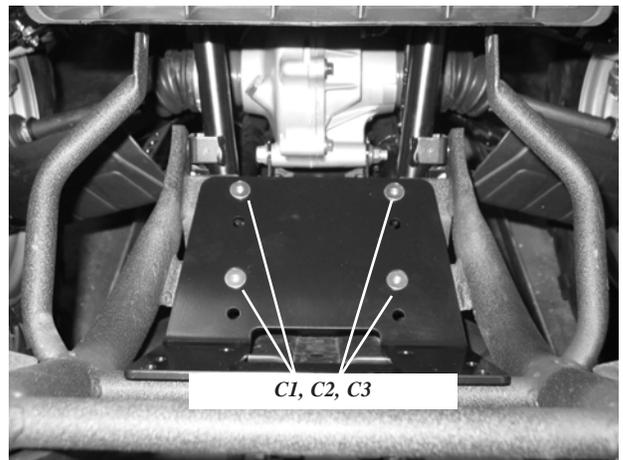

Figure 8: Secure winch mounting bracket to tabs
8. Secure winch mounting bracket (A1) to mounting tabs using four M8 - 1.25 x 20mm flat hex head bolts (C1), four 5/16 flat washers (C2) and four M8 - 1.25 lock nuts (C3). See figure 8. Do not tighten bolts down at this time.